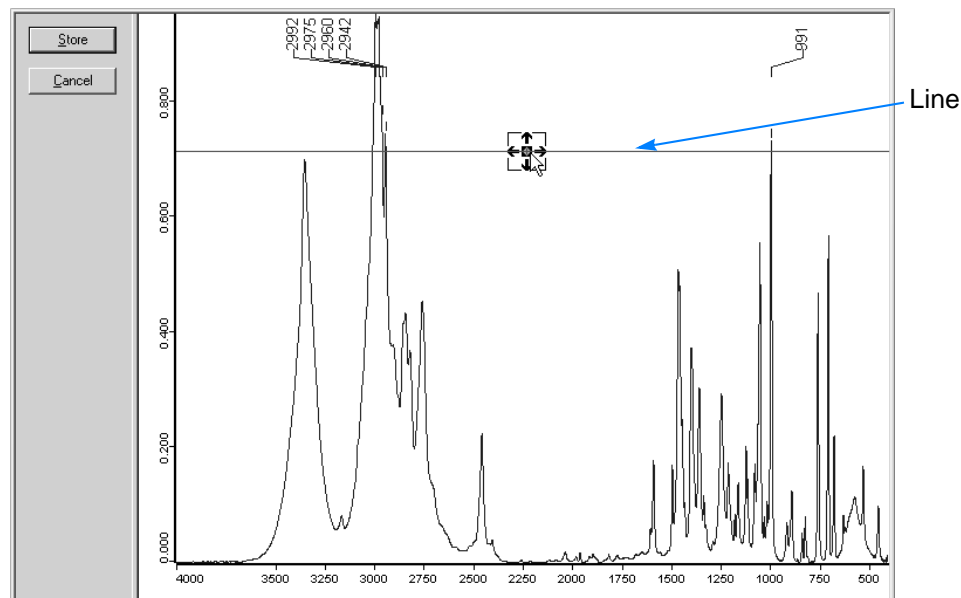

Figure 45: Interactive peak picking
- 2 Using the line in the spectrum window, you can select interactively the peaks of which the frequency value is of interest to you. To do this, place the cursor on the  symbol and move the line with pressed left mouse button up- or downwards. The frequency values of all peaks above this line are displayed (see figure 45).